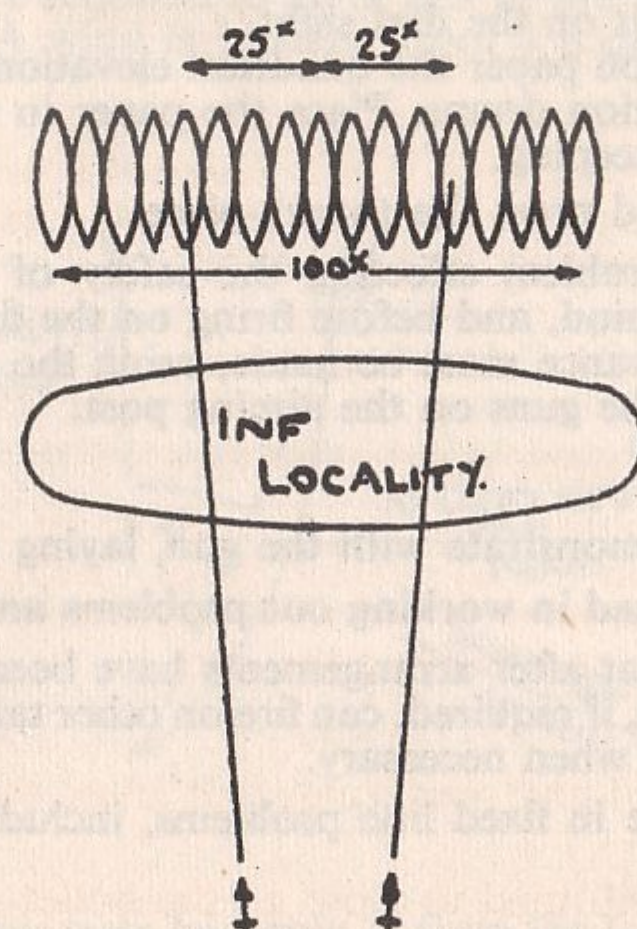

FIG 38
7. State that there may be occasions when it is desired to lay a mat of fire over the heads of own troops. In this case, the guns are laid a certain distance apart, normally 50 yards. Arrangements are made to tap the guns right and left so that the width of the mat is 100 yards (see Fig 38 above).